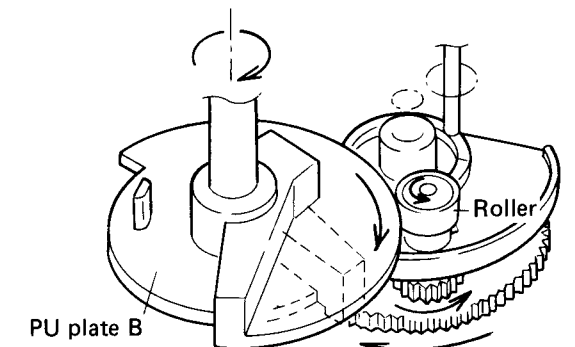

Fig. 7 Tonearm lead in
3. As gear A will continue to rotate, gear B (roller) will also rotate. The arm will then be led in as a result of the friction between the roller and the PU plate A (Fig. 7).